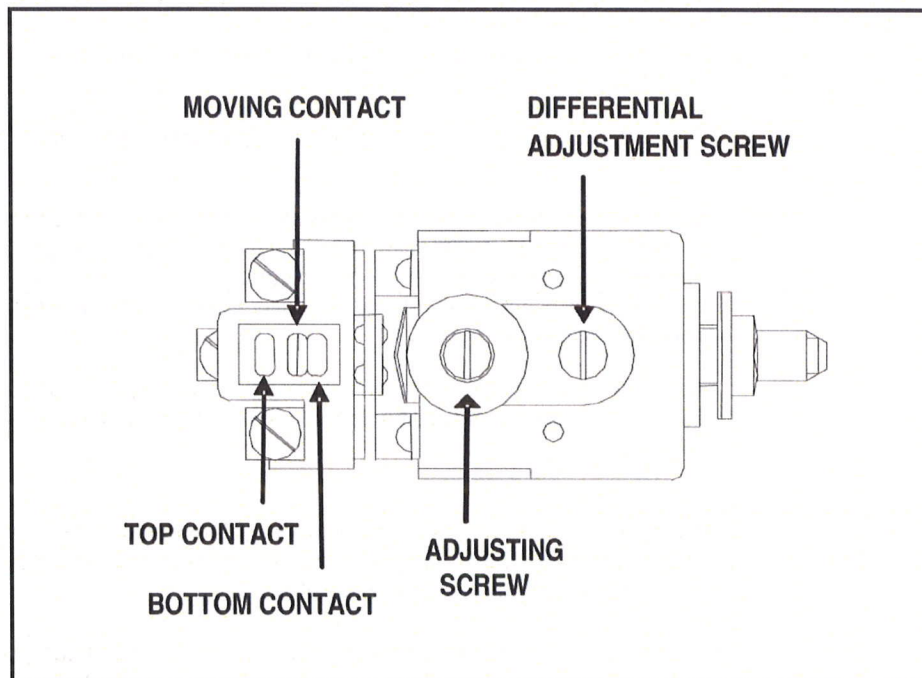
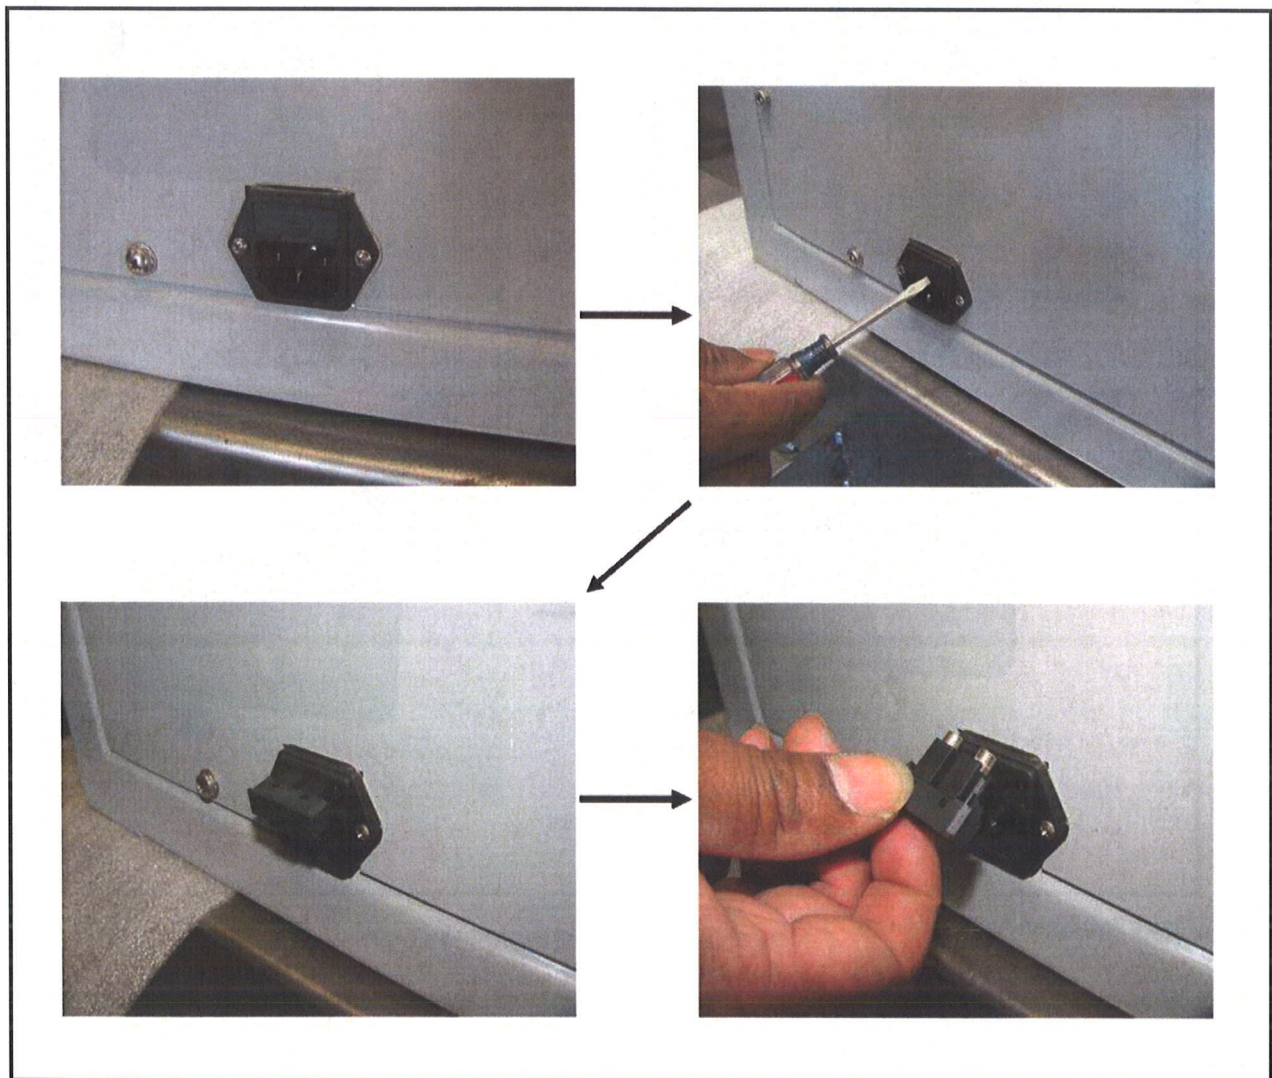

Figure 5: Pressure Switch
Figure 6: Main Fuses
For the Dual-Bed nitrogen generator to switch to stand-by mode, the pressure switch (PSH 101) has to remain in closed (changed state) position for 10 minutes. This means that the pressure switch has to be set just below the lowest pressure point in the nitrogen surge tank during no flow. Refer to the electrical diagram (Figure 5) and Figure 6. If the pressure switch is not set below the lowest pressure reading in the nitrogen tank **during no-flow condition** PSH 101 will open during the nitrogen tank pressure swing before 10 minutes has elapsed and the PLC will not set the unit to stand-by. The pressure switch is located inside the electrical junction box. A flat head screw driver is required to turn the adjustment screw. Take great care in using tools around live terminals.
4. Turn the adjusting screw counter-clockwise until the moving contact in the pressure switch just touches the bottom contact (closed position). Note that X1 in the PLC is illuminated. X1 lamp is illuminated when the pressure switch is in the closed position. If the switch is already closed, turn the adjusting screw clockwise until the contacts no longer touch. Then turn the adjusting screw counter clockwise until the switch closes. Refer to Figure 6.